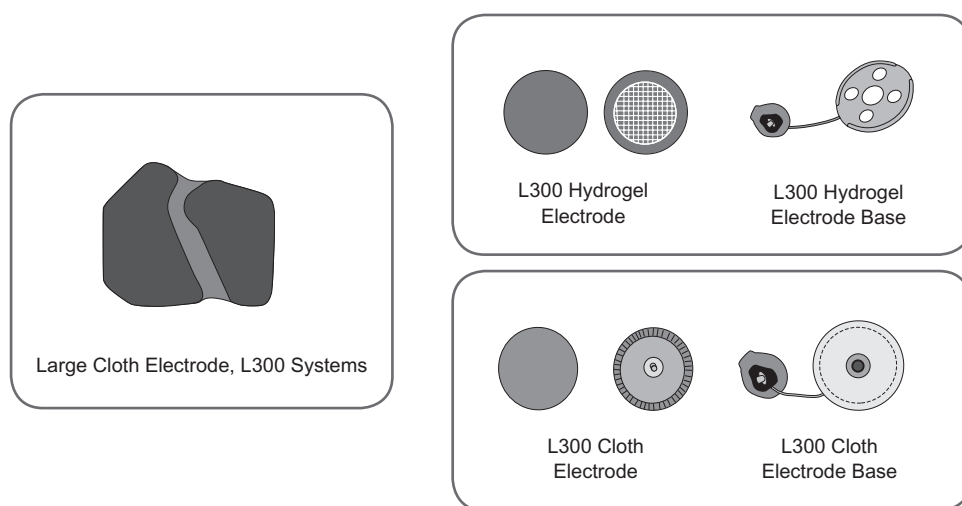

Figure 4-9: L300 electrodes and bases.
- Large Cloth Electrode, L300 Systems. See Figure 4-9.